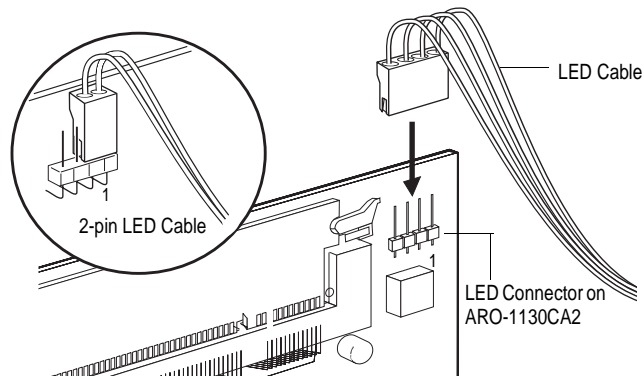

Figure 2-4. Connecting the LED Activity Indicator Cable
*(Optional feature)* An LED on the front panel of most computers lights to indicate non-SCSI hard disk activity. If you want that LED to light whenever there is activity on SCSI Channel A (controlled by the ARO-1130CA2), disconnect the LED cable from the motherboard and connect it to the LED connector on the ARO-1130CA2. If the LED has a two-position cable, connect the cable to pins 1 and 2 of the LED connector, as shown in Figure 2-4.